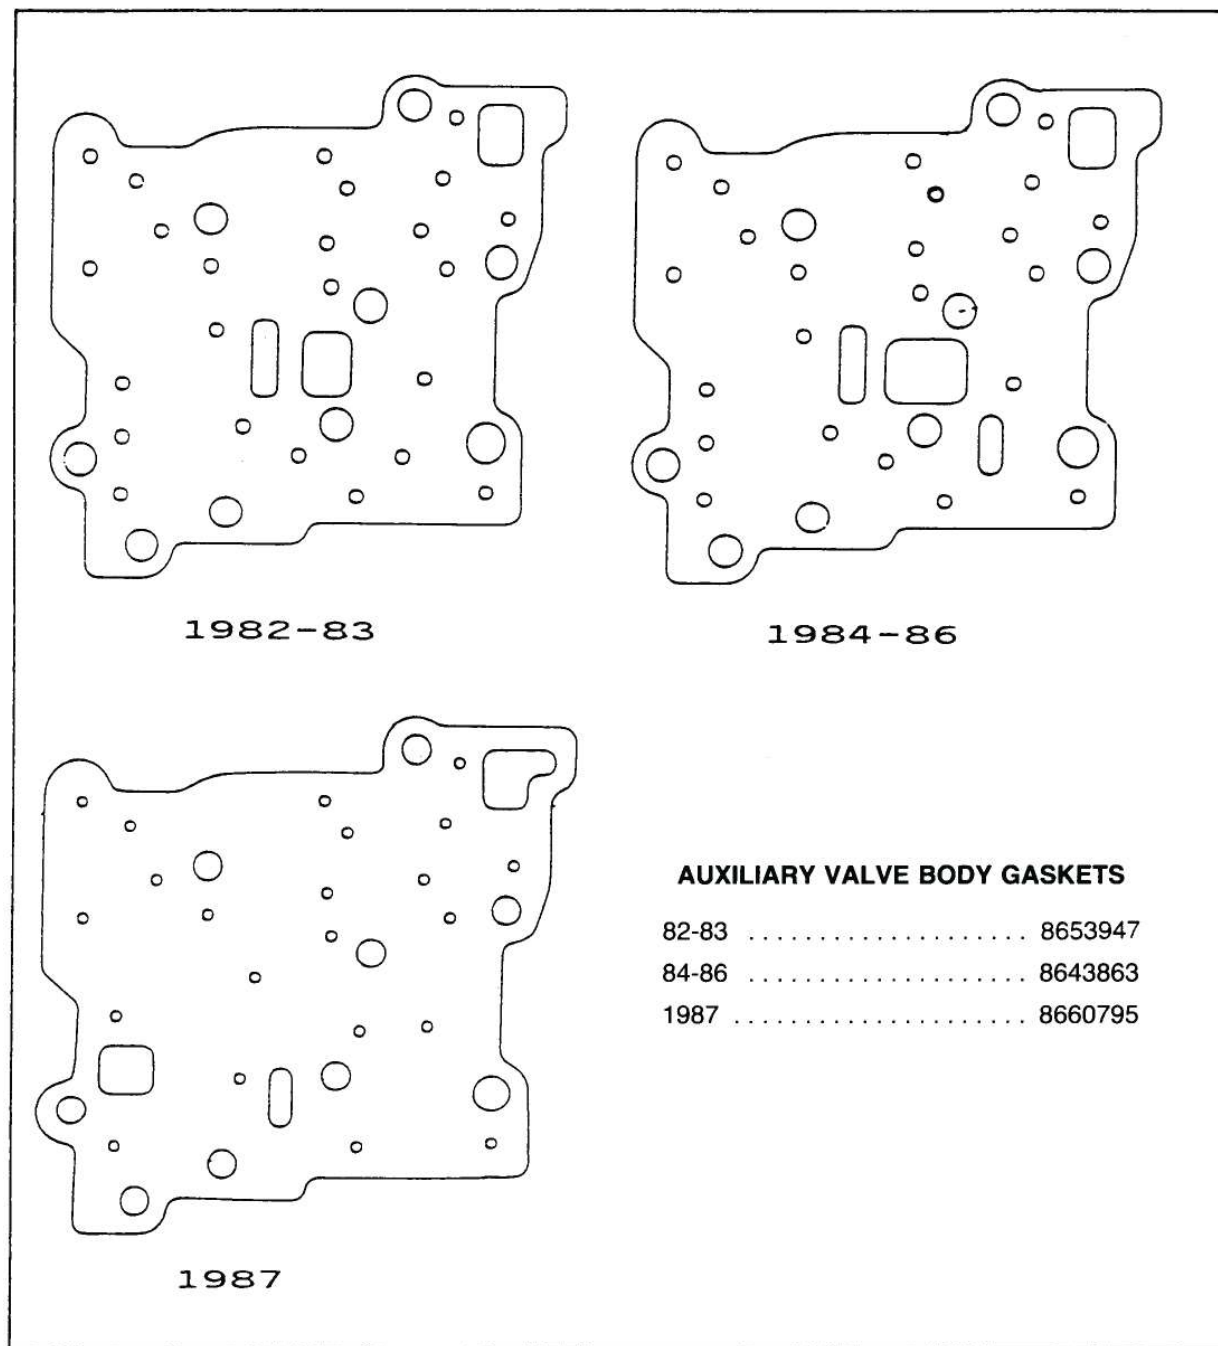

Figure 65
2. Auxiliary Valve Body Cover Gasket (See Figure 65).